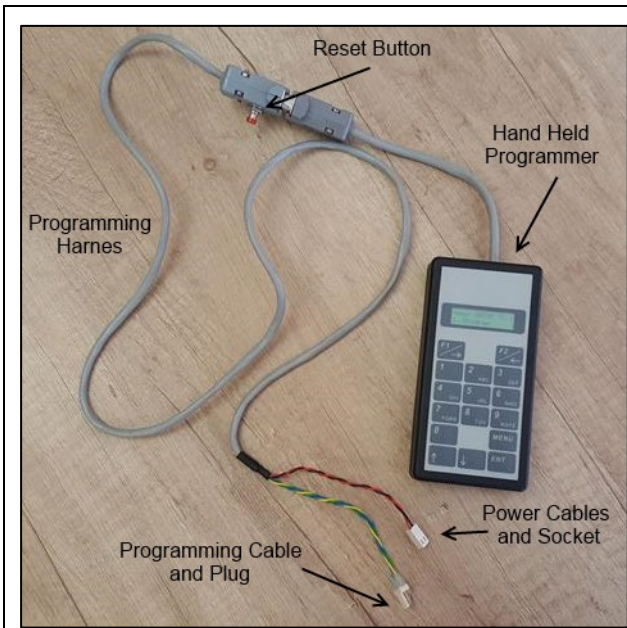

Figure 3: Programmer Setup
- Referring to Figure 3 and 4 above, the HHP will be equipped with an interfacing harness containing 5 wires namely Red (+), Black (-), White (Programming), Purple (Programming) and Green (Reset). The Red and Black cables are terminated in a socket connector while the Yellow, Blue and Green wires are terminated in a plug. The interfacing harness will also be equipped with a Red reset button mounted on the cover of the DB9 connector of the harness cable.